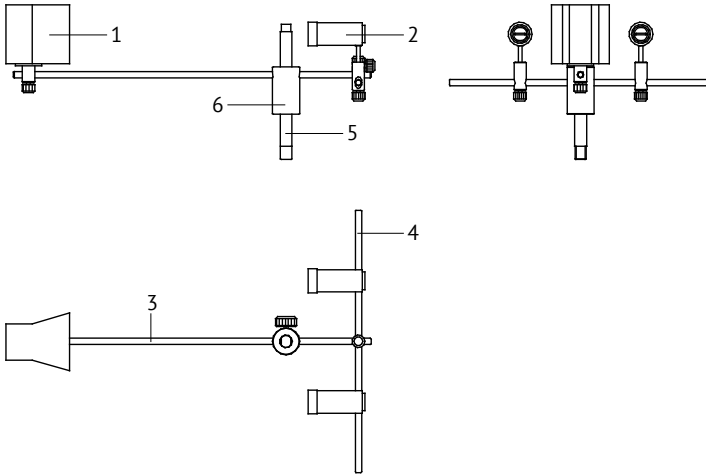

Fig. 9. Piston position control device:
6.20 Screw post 5 (Fig. 9) on the rear part of the piston position control device base.
6.21 6.21 Lock bush 6 (Fig. 9) at post 5.
6.22 6.22 Screen 1 is to be secured at one edge of rod 3 (Fig. 9) while rod 4 with illuminators is to be fitted at the opposite edge as shown in Fig 9. The position of illuminators should be adjusted so that outline of weights